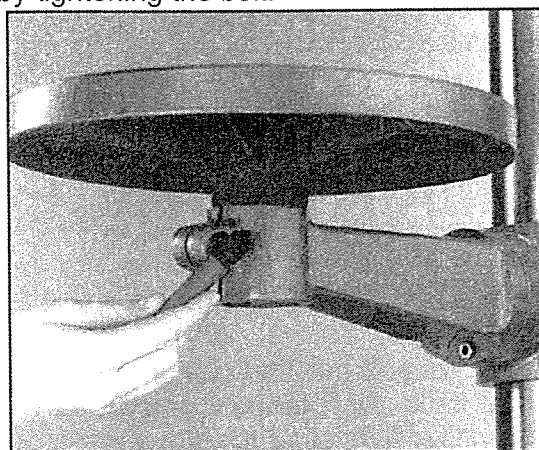

Figure 18
1. Loosen the lock handle located under the table as shown in **Figure 18**. Rotate the table